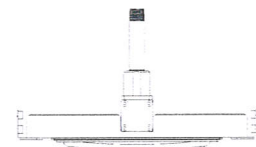

Figure 7
- ☞ Tighten tube locking setscrew to conduit, 1.0 N-m. (Figure 7)